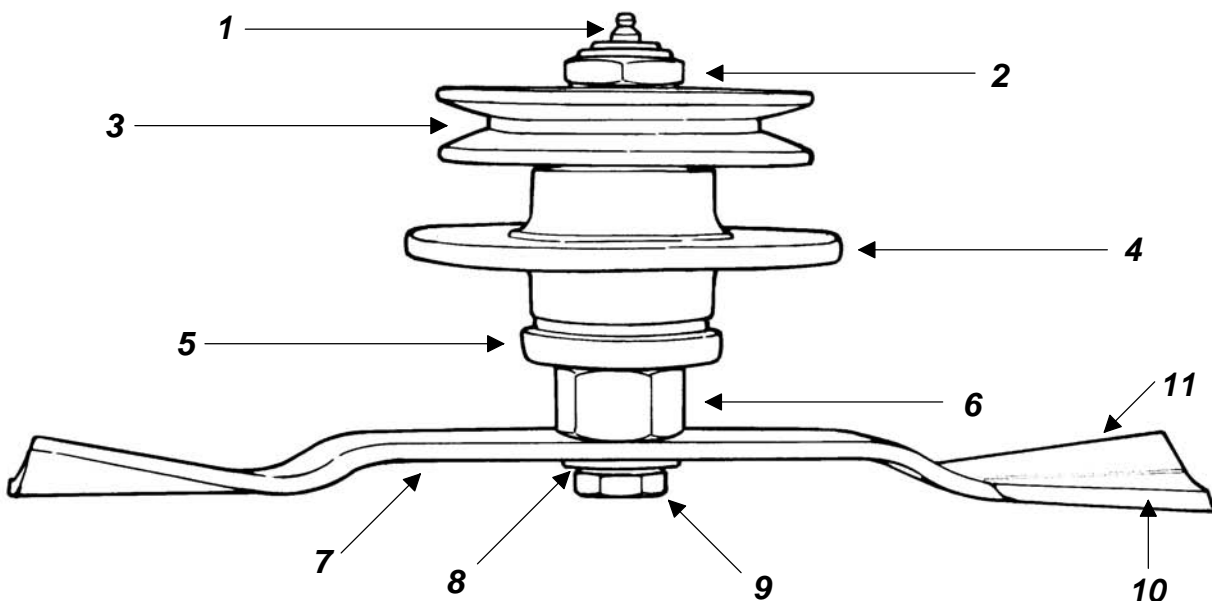

Fig. 19 - Spindle assembly.
1. The blade turns in a **counter clockwise** direction when viewed from the bottom of the deck. The cutting edge must be towards the direction of rotation. The lift wing of the blades is closest to the deck and the cutting edge away from it (**see fig. 19**).
2. Install the cup washer (see fig. 19) over the blade bolt and secure the blade in place as described above.